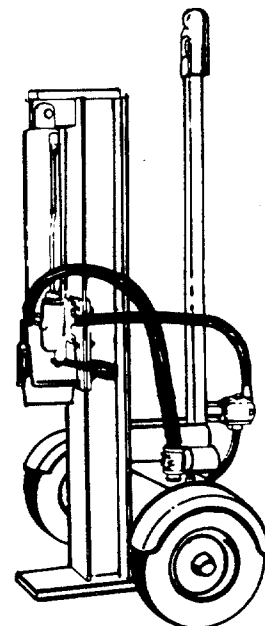

FIGURE 19.
4. The tongue can be removed and reattached in an upright position as shown in figure 19 to take less space when storing.